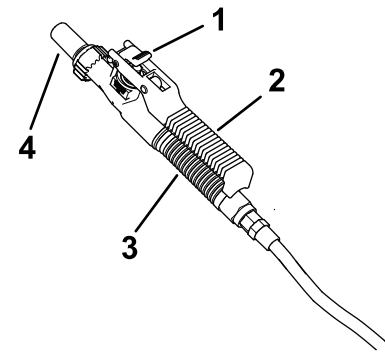

Figure 48
7. Squeeze the trigger to the spray-wand handle to begin spraying; lock the trigger in place if desired (Figure 48).
8. When finished spraying, if you locked the trigger of the spray-wand—unlock it, and release the trigger (Figure 48).